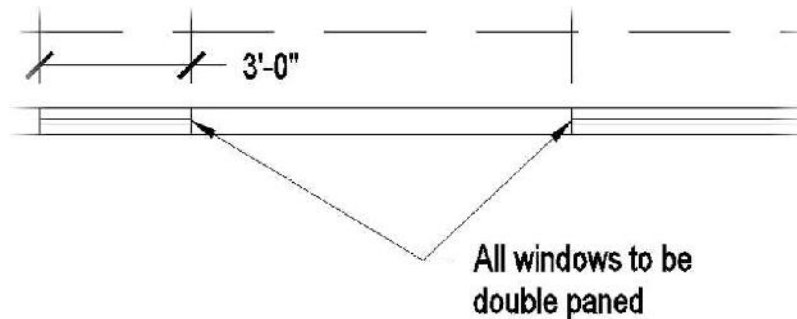

FIGURE 12.49: Using grips to move the position of leader lines
10. Click the grip at the tip of the left leader and then move the grip to the end of the inner pane of the left window (see Figure 12.49).
11. Click the grip at the tip of the right leader, and move the grip to the left end of the inner pane of the right window (also shown in Figure 12.49).